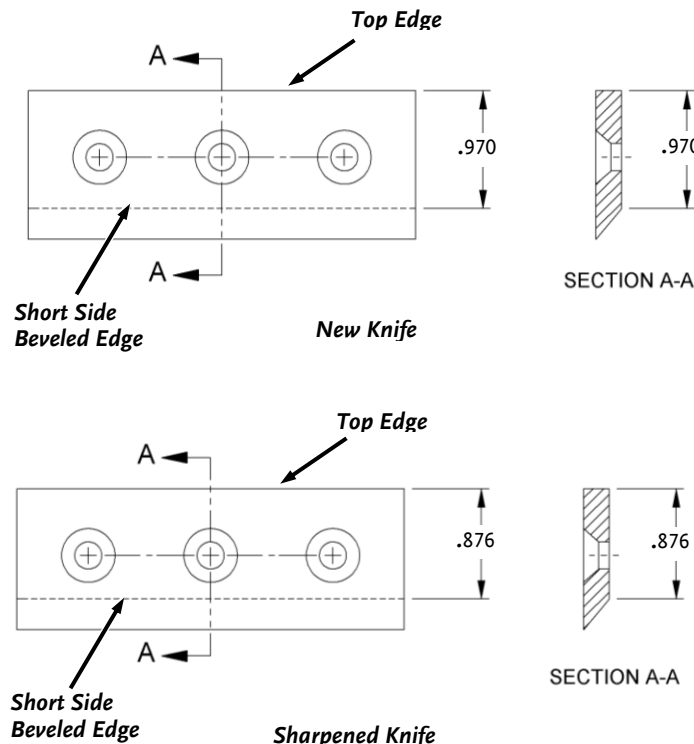

Figure 46
- A new Chipper Knife has .970" measurement between the short side bevel edge and the Knife Top Edge (**Figure 46 "New Knife"**).
- Once this measurement is below .876" (**Figure 46 "Sharpened Knife"**), or if you are unable to remove dents or gouges with these guidelines, replace the Knife.